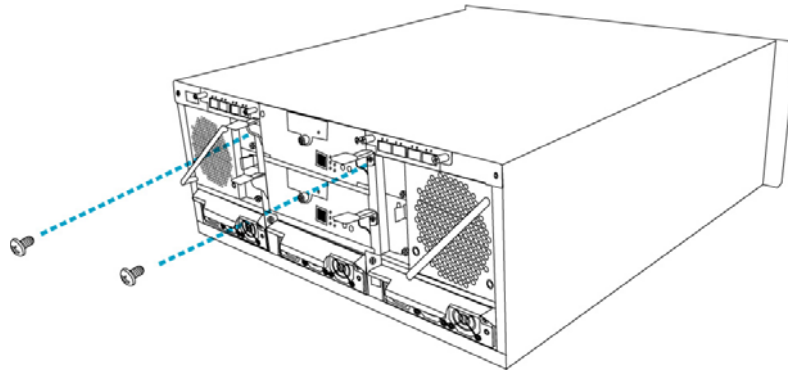

Figure 5-2: Removing the Retention Screws
- Step 5. **Loosen the retention screws** that secure the controller's ejector levers to the enclosure chassis. (See **Figure 5-2**)